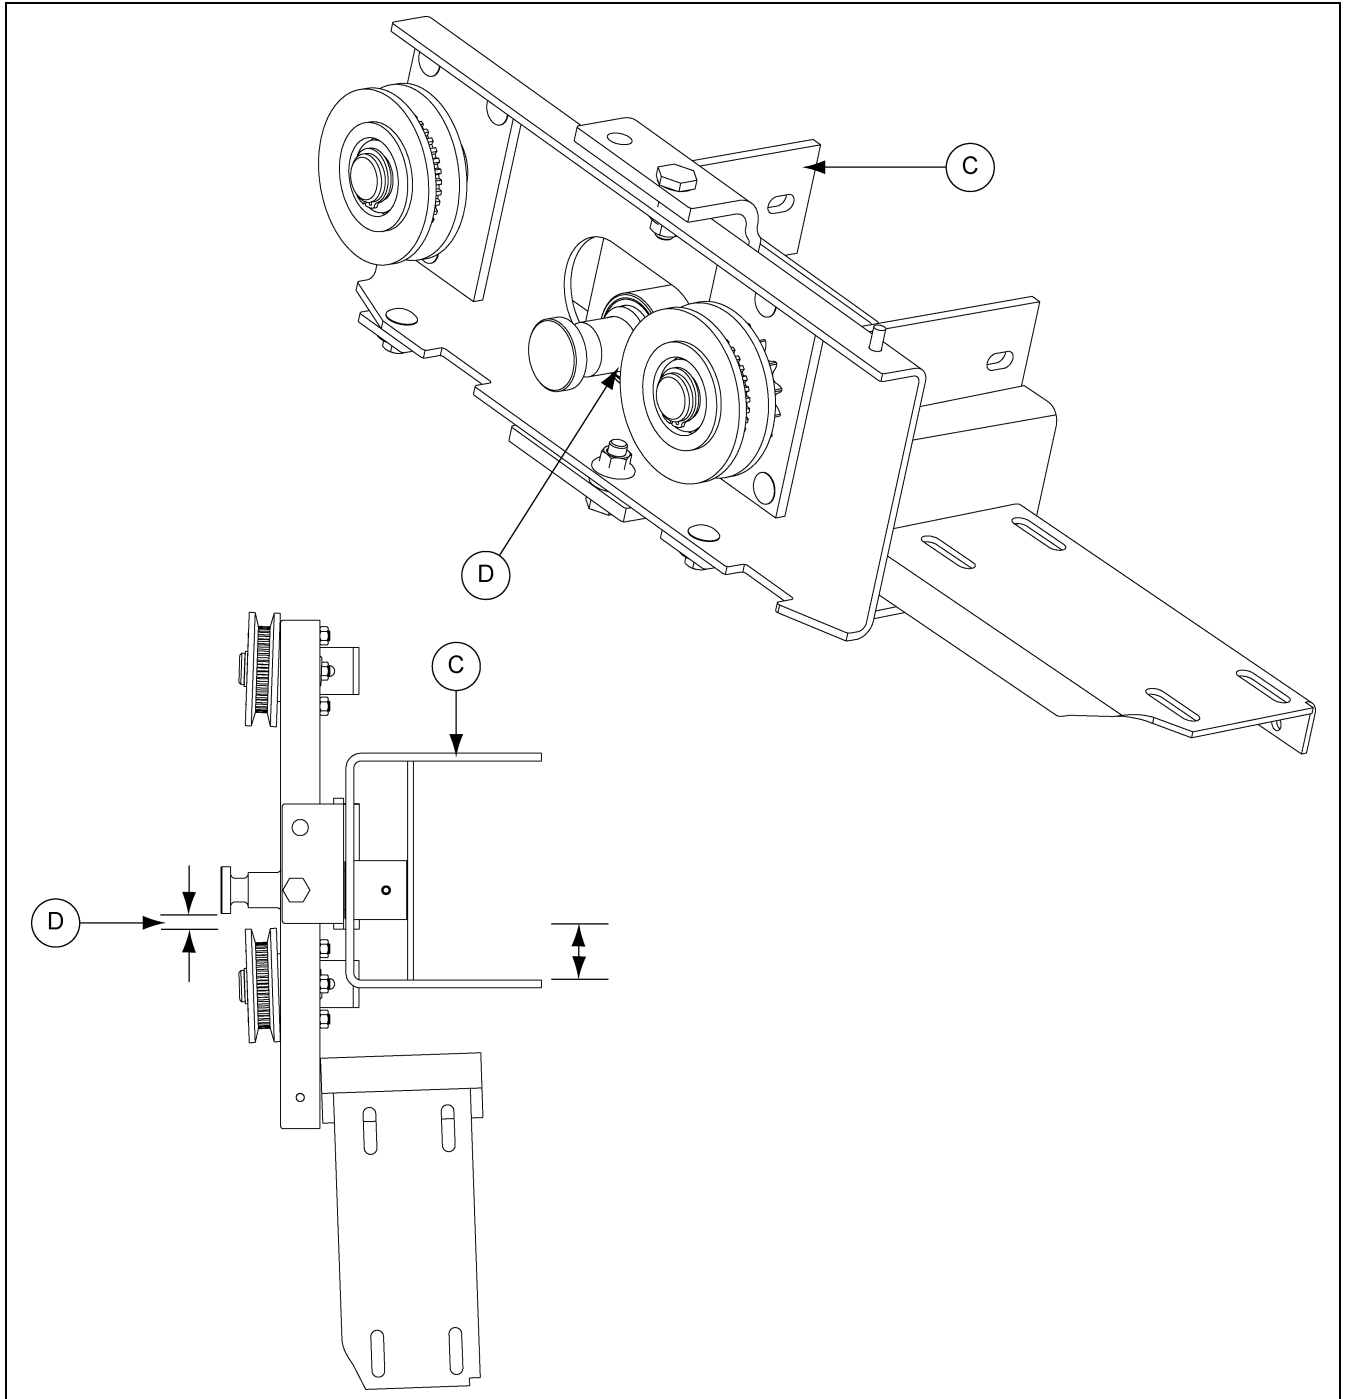

Figure 2 Correct, 1.5 HP Position
5. Verify the pivot bracket is positioned **correctly**. It will have a greater offset distance and be located on the same side of the machine as the down auger (C) and the pivot shaft will be positioned next to the gear motor in the slot (D). (See Figure 2.)